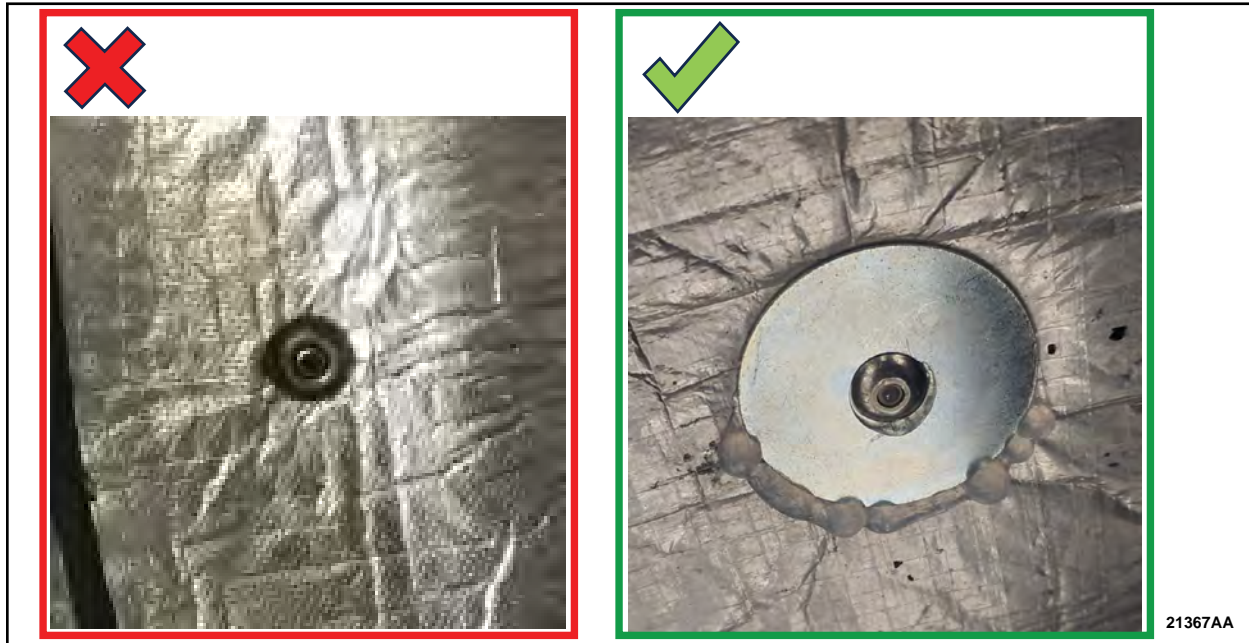

FIGURE 14
16. Using a 1/4" rivet gun, install the rivet and washer to the drilled hole. See Figure 14.